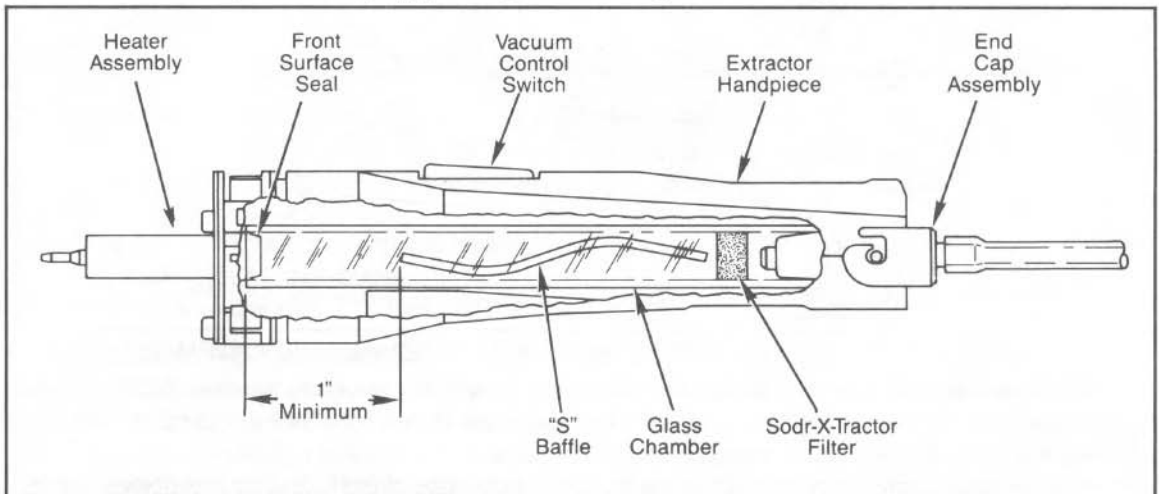

FIGURE 5. CUTAWAY OF EXTRACTOR HANDPIECE AND GLASS CHAMBER
CLEANING SOLDER COLLECTION CHAMBER—Solder and flux build-up in the Glass Chamber depends on usage. To clean the Glass Chamber, proceed with the following steps (see Figure 5):
- seat baffle just in front of the End Cap Assembly, leaving enough room for Filter. The front end of the Baffle must be positioned at least 1" from the Front Surface Seal (see Figure 5).
- remove the End Cap Assembly and Glass Chamber (refer to Figure 5).
- remove the End Cap Assembly and Glass Chamber from Extractor Handpiece, refer to Figure 5,
- remove the three (3) Heater Mounting Screws from Extractor Handpiece. (**NOTE: DO NOT** pull Heater Assembly from the Handpiece at this time),
- using Tip Tool or Needle Nose Pliers, disconnect the five (5) leads plugged into the PC Board of the Cord and Switch Assembly,
- remove the three (3) Heat Dissipator Mounting Screws from Handpiece,
- remove two (2) Handpiece Mounting Screws from Handpiece,
- remove the two (2) Switch Assembly Mounting Screws,